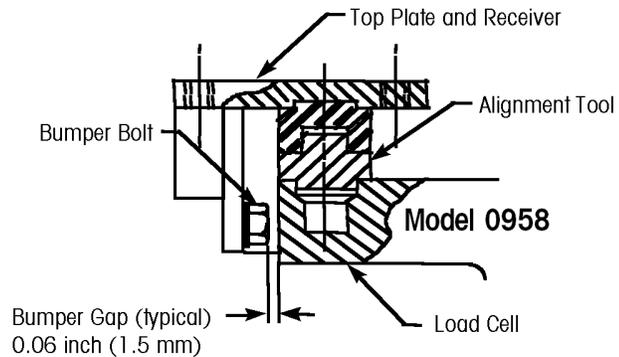

Figure 8-4: Installation of Centerlign Alignment Tools
1. Install an alignment tool in each weigh module. The alignment tool fits between the top plate and the load cell, as shown in Figure 8-4.